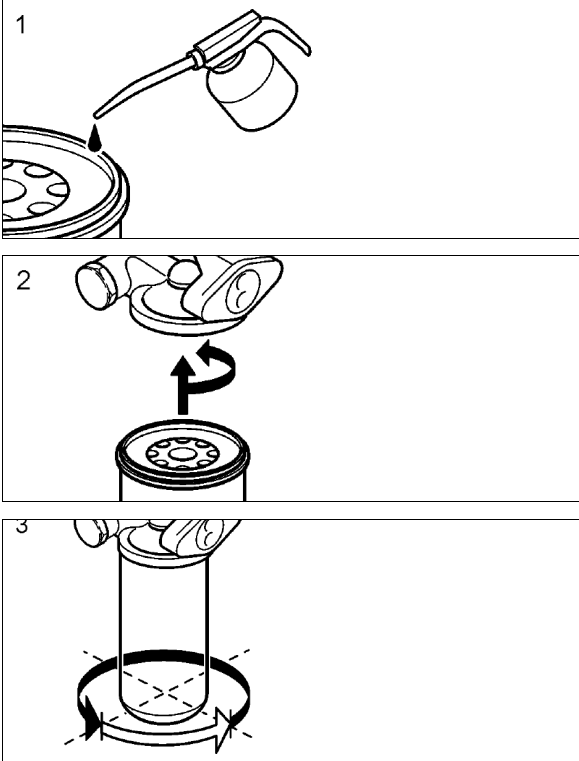

FIGURE 9: OIL FILTER REPLACEMENT
- Prefill the new oil filters with approved engine oil. Refer to Figure 9. Also, lubricate the filter gaskets with engine oil (1). Hand tighten the oil filters until they contact the sealing surface of the oil filter housing (2). Manually tighten the oil filters an additional ¾ to 1 full turn (3).